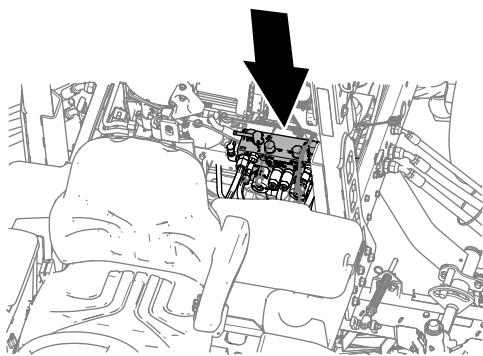

Figure 167
- Rotate the front, rear, or both backlap levers to the R (backlap) position (Figure 167).